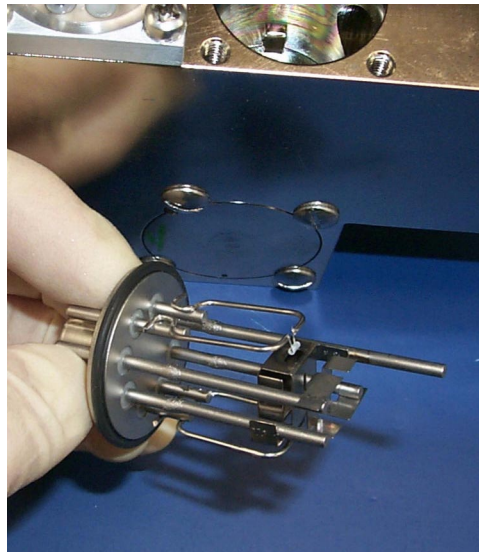
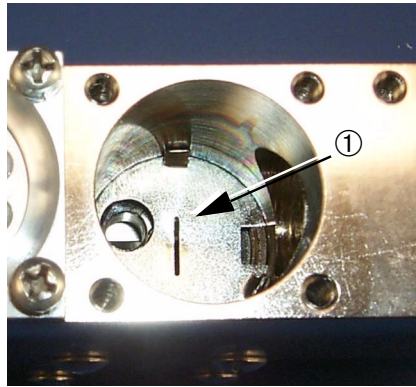

Figure 5-12 The Ion Source
Figure 5-13 Ion Source Cavity
16. Examine the ion source (Figure 5-12) and cavity (Figure 5-13) for deposits and discoloration. When examination is completed, dispose of it properly or return it to Varian Vacuum Technologies for exchange.
17. Looking into the ion source cavity (Figure 5-13) you will see the ground slit plate ①.
9. Examine the ion source (Figure 5-12 on page 5-11) and cavity for deposits and discoloration. When examination is completed, discard the ion source or return it to Varian Vacuum Technologies for exchange.
10. Inspect the ground slit plate (Figure 5-20 on page 5-15) and ion source cavity (Figure 5-13 on page 5-12) to verify that they are clean. If not, follow applicable instructions in Section 5.3.5 to clean the spectrometer body and ground slit plate.